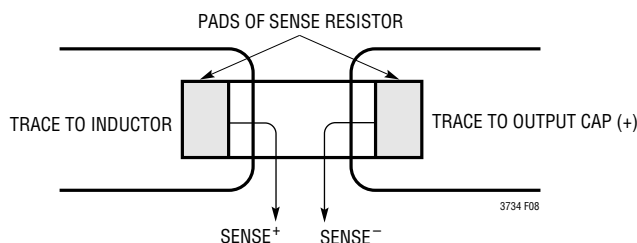

Figure 8. Proper Current Sense Connections
3) Are the SENSE[–] and SENSE⁺ leads routed together with minimum PC trace spacing? The filter capacitors between SENSE⁺ and SENSE[–] pin pairs should be as close as possible to the LTC3734. Ensure accurate current sensing with Kelvin connections at the current sense resistor. See Figure 8.